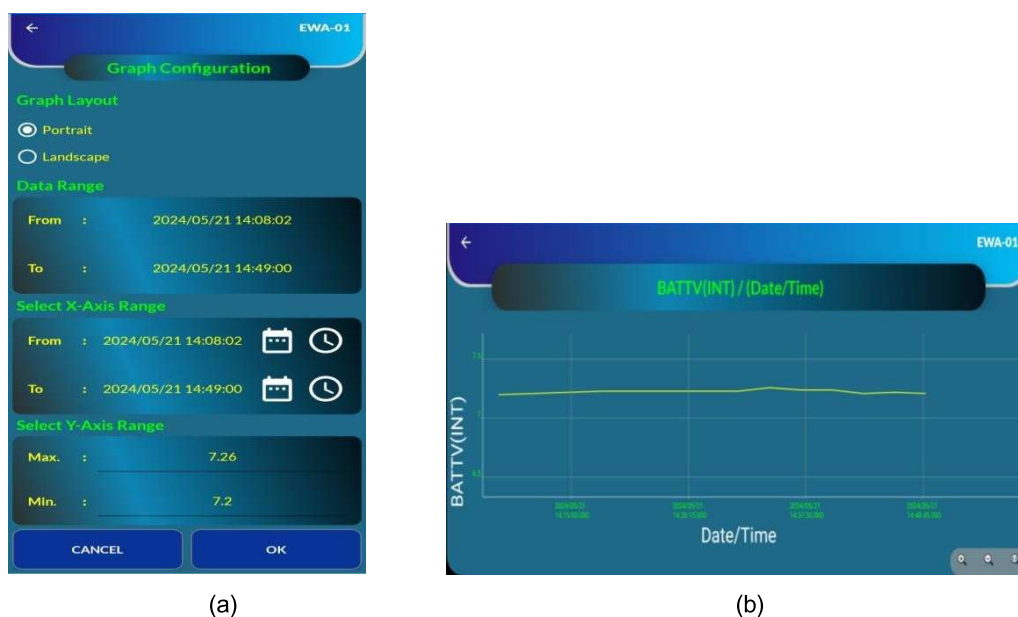

Figure 6-16 View data in graphical format
- Graph view of selected parameter is also available. Tap the graph button as shown in figure 6-15 (b). A window as shown in the figure 6-16 appears. To view the graph, select Graph Layout, Data Range, X-axis and Y-axis range and click on "OK" button.